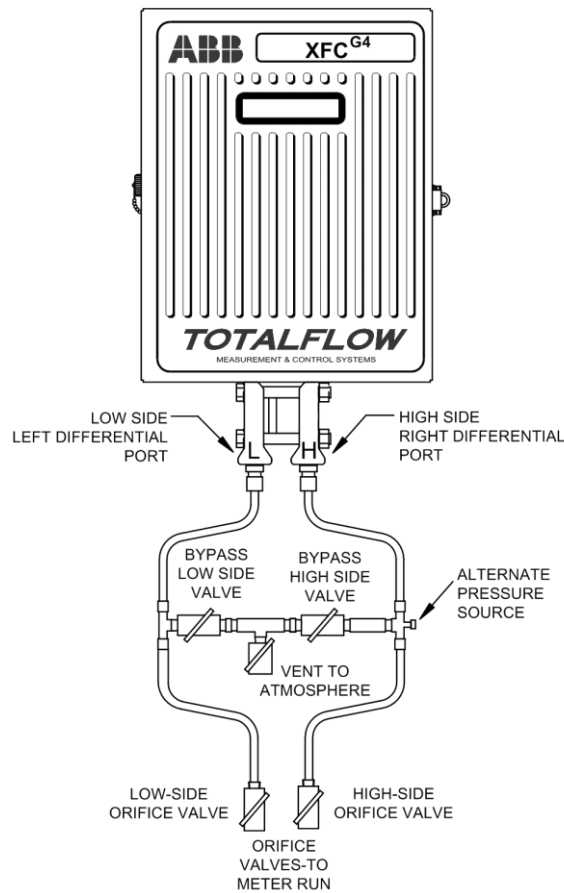

Figure 92: Flow Computer with Discrete Manifold
10. Equalize the pressure to the XIMV using the meter run installed Manifold high/low control valves, (Figure 92:).
9. Verify that the vent valve is closed (Figure 92:).